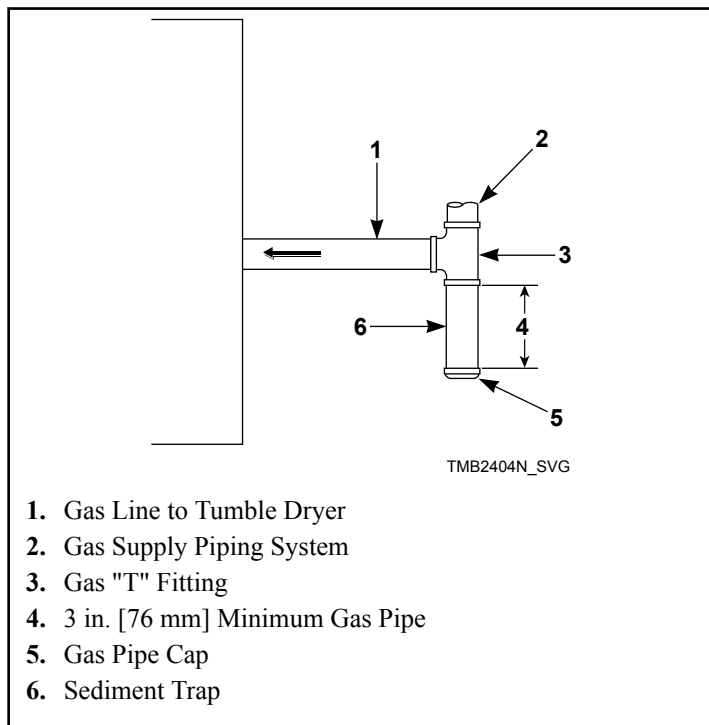

Figure 18
The following must be furnished and installed by the customer for the gas service line to each tumble dryer. Refer to *Figure 18*.
- Supply pressure taps (1/8 NPT minimum) (refer to *Figure 18*)